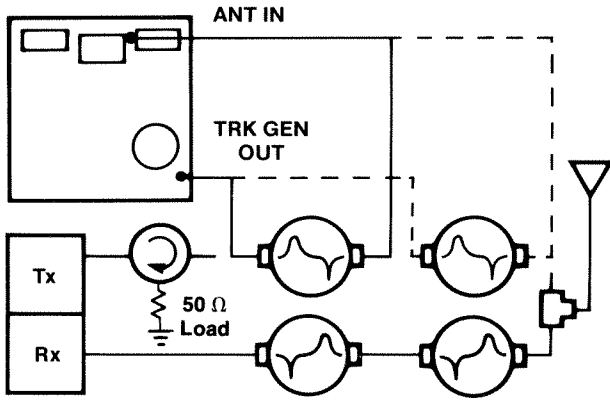
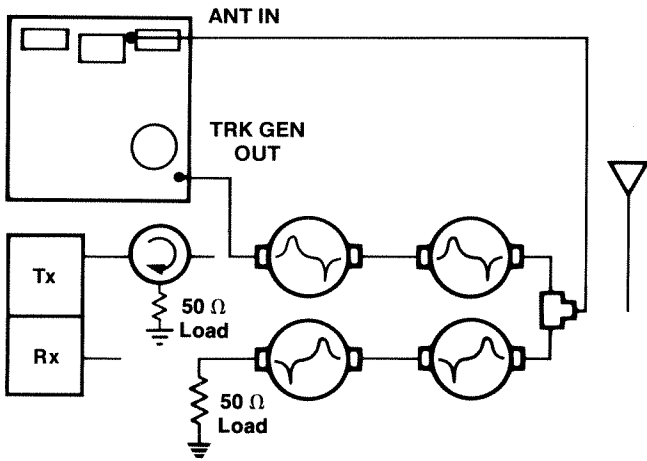

Figure 2
Figure 3
- ⑦ Adjust the SIG GEN FINE control to set the trace at the top of the CRT to compensate for the insertion loss of the coax test cables.
- ⑧ Connect the SIG GEN OUT to the cavity closest to the transmitter. (Do not tune through an isolator). Disconnect the cable between the cavities and connect the ANT IN to the other connector on the cavity. (See Figure 2).
- ⑨ Align each cavity independently tuning the bandpass first changing the FREQUENCY SELECT switches to the receiver frequency and tuning the band reject (notch) second. Retune each cavity a second time (elements in the cavities will interact slightly on the first tuning).
- 10 Connect the cavities to the duplexed system. (See Figure 3). Terminate the receiver side with 50 Ω and retune (first the bandpass and then the band reject).